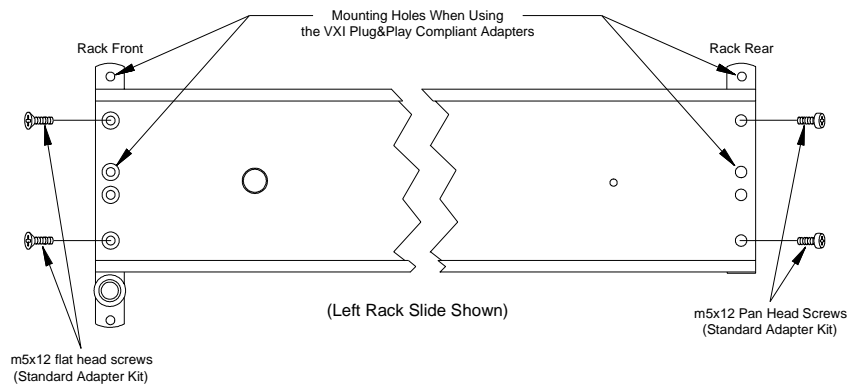

Figure B-9. Installing the Rack Slide Stationary Sections.
- Attach the stationary section to the rack's front inside rail through the channel nuts. Use two m5x12 flat head screws. Attach the stationary section to the rear inside rail using two m5x12 pan-head screws (Figure B-9).